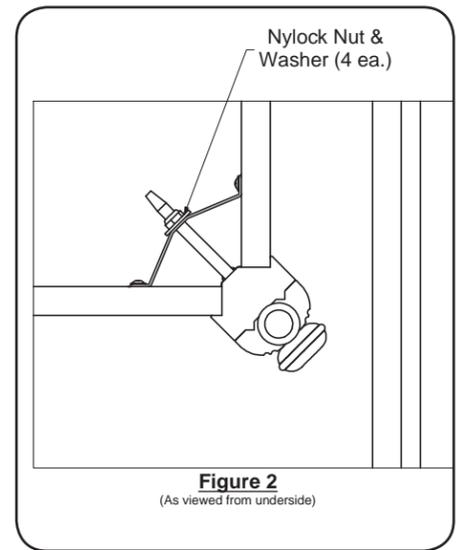

Figure 2
- 7) Using the included wrench, or a 1/2" wrench, tighten all eight nuts securely. When tight, assembled unit should look like figure 2.